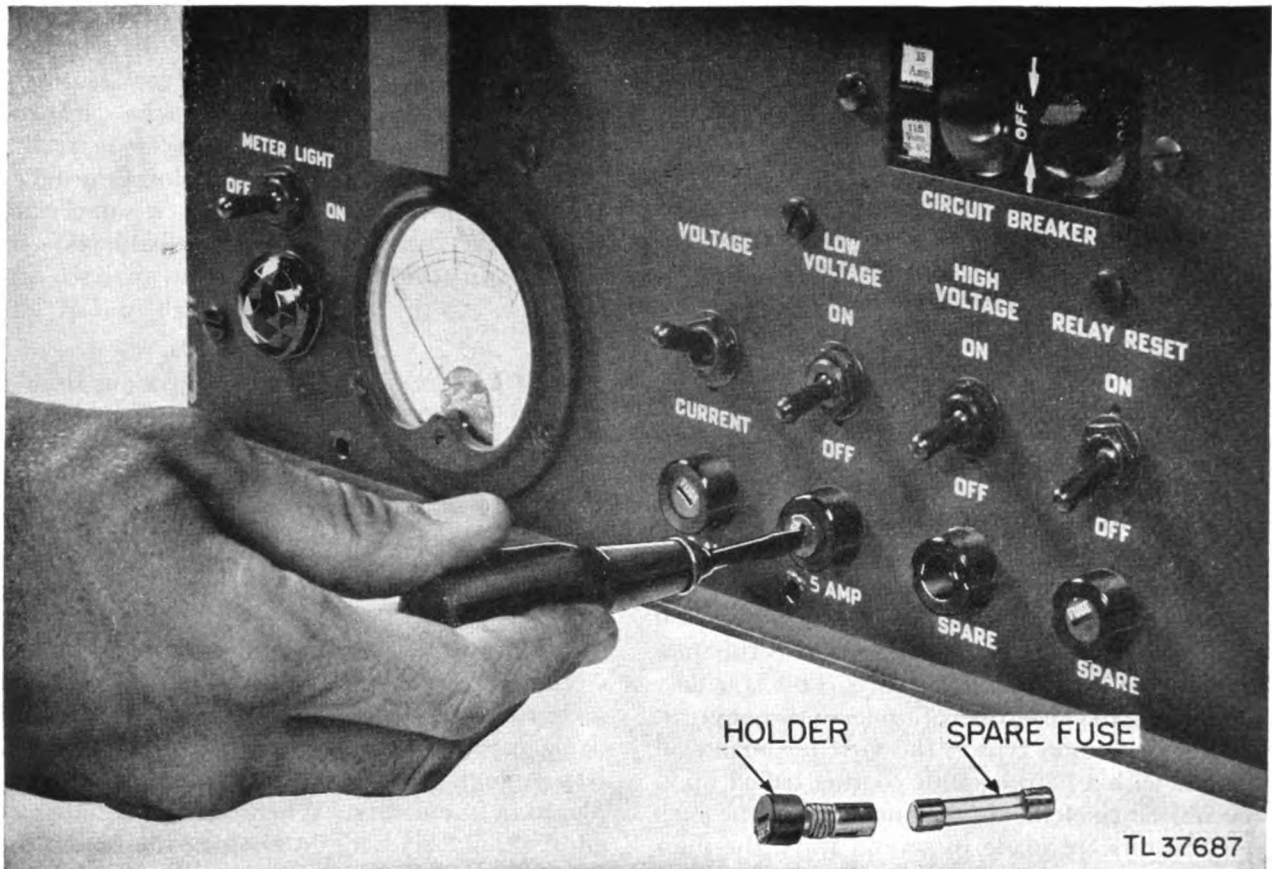

Figure 10. Method of removing and replacing fuses.
*a. GENERAL.* (1) Fuses are small strips of metal with a low melting point. They are inserted in series with an electrical circuit to open the circuit when the amount of current in the circuit exceeds a prescribed value. Such fuses serve to protect equipment against overload and damage. The type of fuse used in the RC-150 is nonrenewable and when blown must be replaced in its entirety. Whenever a fuse blows, an effort should be made to discover the reason for the failure and to make corrections, if possible, before a new fuse is installed.
(2) Nonrenewable or one-time fuses (fig. 10) are to be discarded when blown and replaced with good fuses. The holder and fuse can be unscrewed from the socket. This type of fuse is found in the RC-150. To remove a fuse, place a screw driver in the slot of the red plug of the fuse holder, unscrew the plug until it turns freely; then pull it out with the fingers. The red plug of the fuse holder fits over one terminal of the fuse and is held there by friction. The plug and fuse are separated by pulling them apart. Care must be taken to see that the contact surfaces of the fuse and socket are kept clean and tight.
*b. INSPECT (I).* Examine fuse caps for evidence of burning, charring, or corrosion. Examine the fuse clips for tension, dirt, or loose connections.
*c. TIGHTEN (T).* Resolder all connections to the fuse clips if they are loose.
*d. CLEAN (C).* Clean all fuse ends, when necessary, with fine sandpaper and wipe with a clean cloth. If a file is used to remove deep pits in fuse ends or contacts, always polish with fine sandpaper afterward to leave a smooth contact surface. Finish by wiping with a clean cloth.